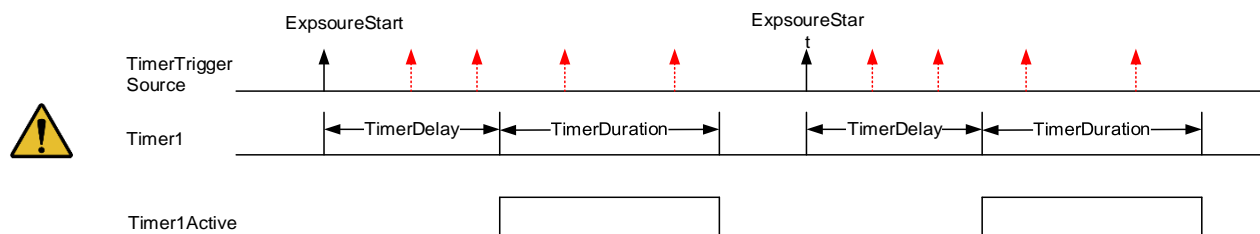

Figure 8-52 The relationship between Timer1Active and the ExposureStart signal
- 1) From the start of the timer to the full output of Timer1Active, this process will not be interrupted by the ExposureStart signal, and Timer1Active must be completely output to start timing according to the next ExposureStart signal. As shown in the Figure 8-52, the red ExposureStart signals are ignored.